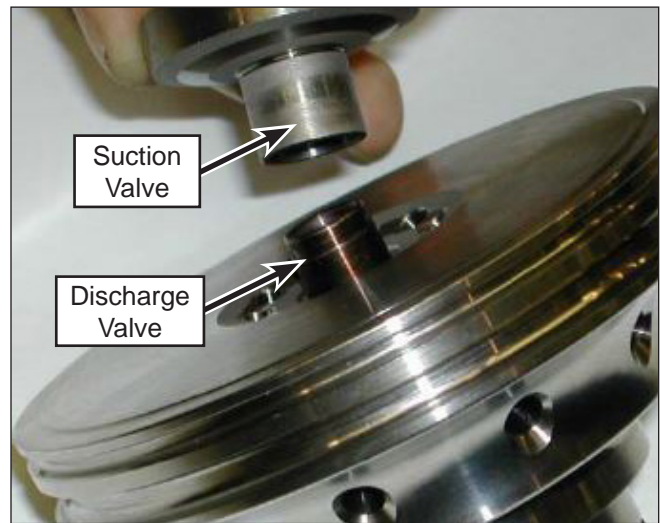

Figure 85: Valve Removal.
7. Remove the suction and discharge valves (Figure 85).